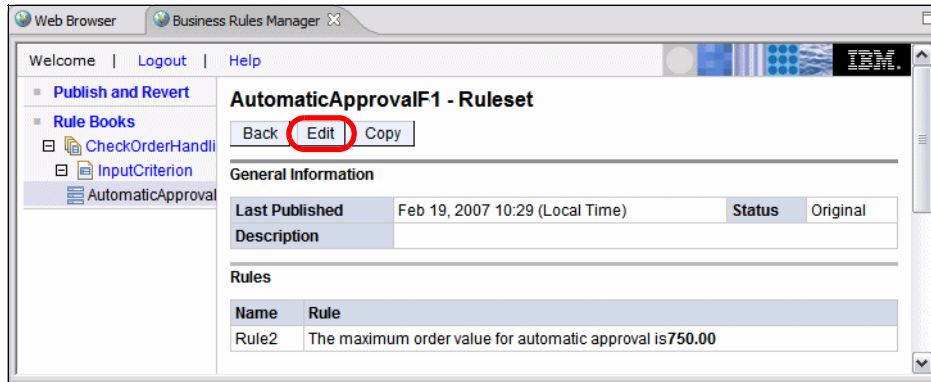

Figure 10-88 Business Rules Manager: Ruleset
- ▶ Click *Edit* (Figure 10-88).